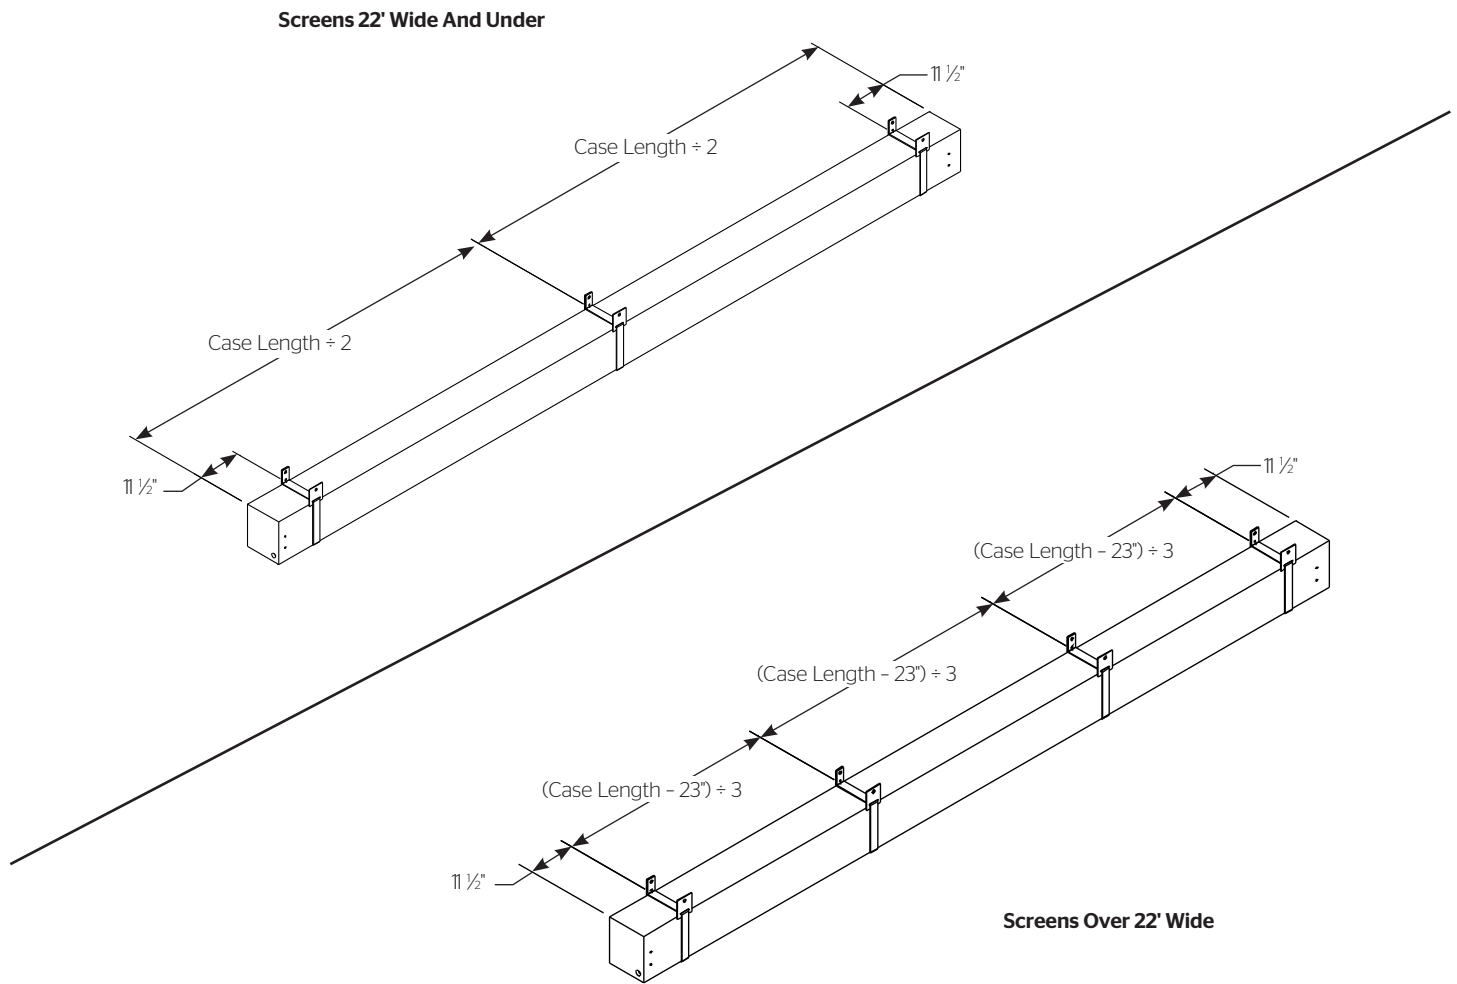

Figure 3
1. See Figure 3 for hanger placement.